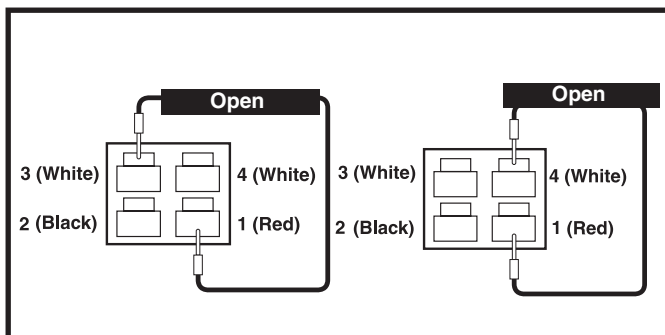

Figure 36. Connector 9a
6. Measure resistance across pin 1 (red) and pin 3 (white) and across pin 1 (red) and pin 4 (white) on connector 9a. **See figure 36.**
- *If your multimeter indicates an open on either test*, then replace the power interface harness (2) and retest the system.
- *If your multimeter indicates less than 1 ohm on both tests*, then replace the right motor (9) and retest the system.